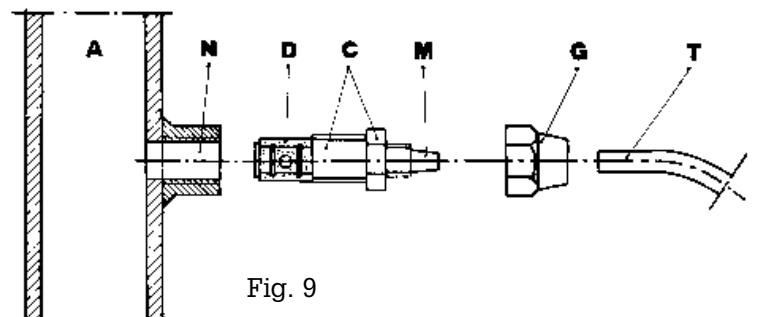

Fig. 9
- g. - Select the most appropriate injection point on a pipe of the plant to be treated and there fit a 3/8"female steel gas thread connector (similar to BSPm). This connector is not supplied with the pump. Screw the injection valve to the gas connector, inserting a gasket as shown in Fig. 9. Then connect the discharge hose to the conical connector on the injection valve and fix it with the supplied tube nut G. The injection valve also acts as no return valve by means of a cylinder sleeve (elastomer, standard supplied in Viton).
### 3.1 - INJECTION VALVE INSTALLATION DIAGRAM (Fig. 9)